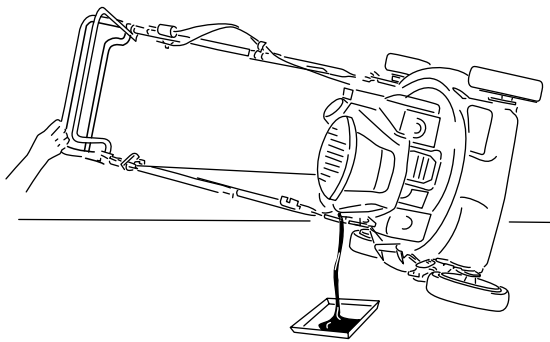

Figure 24
4. Tip the machine onto its side (so that the air filter is up) to drain the used oil from the oil-fill tube (Figure 24).